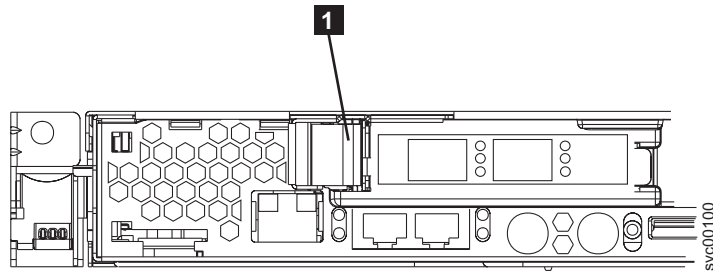

Figure 142. SAN Volume Controller 2145-8F2 or SAN Volume Controller 2145-8F4 PCI slot 1 card retainer
- a. Pull the blue PCI card retainer **1** from the rear of the node, shown in Figure 142 on page 159.